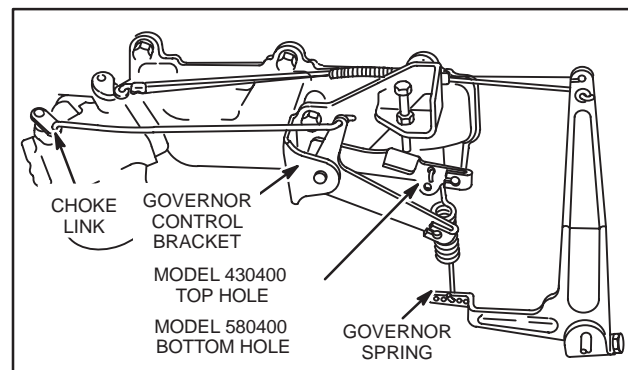

Fig. 22 – Install Governor Control Lever
- Assemble governor control bracket to intake manifold, Fig. 22.